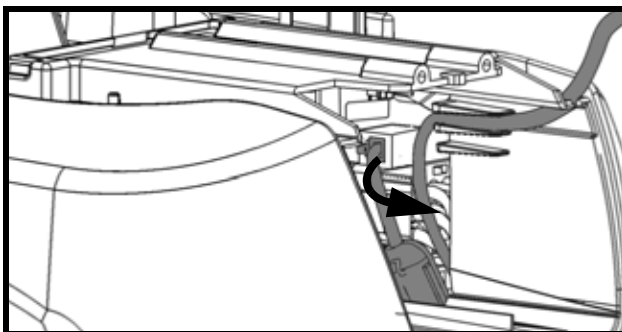

Fig. 4
- 6) Unplug the hand control from the main circuit board (see Fig. 4).